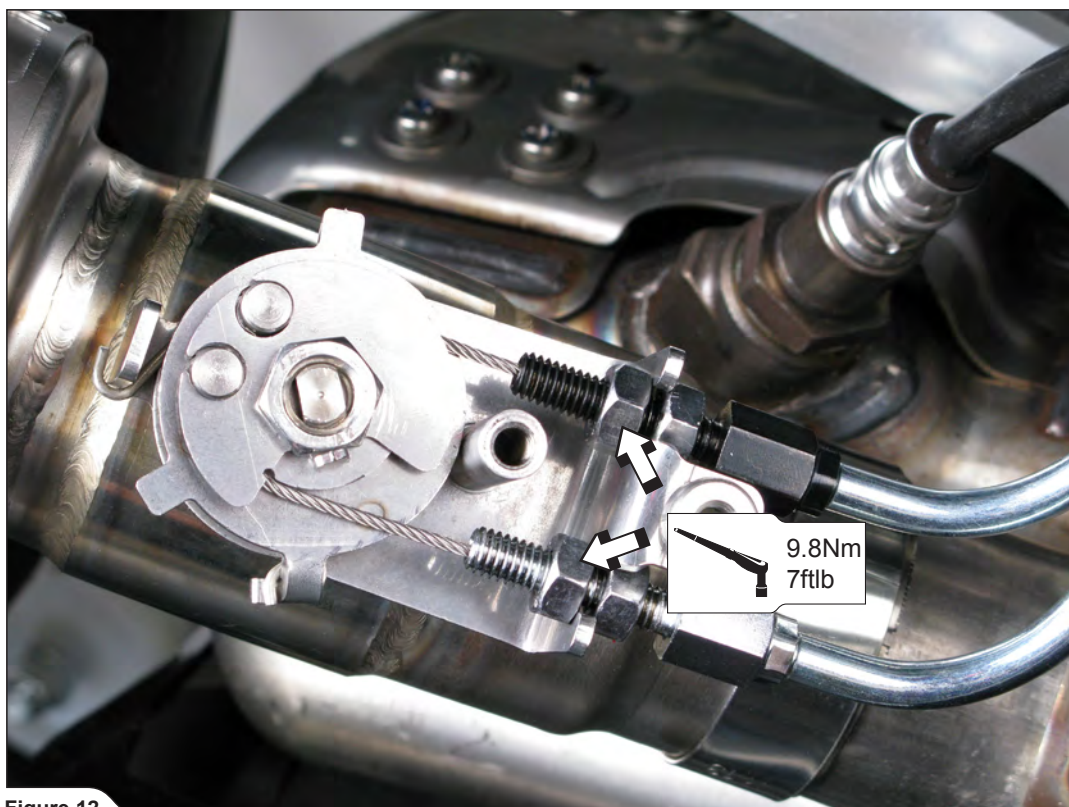

Figure 12
4. Tighten the marked adjusters lock nuts to a specified torque (Figure 12).